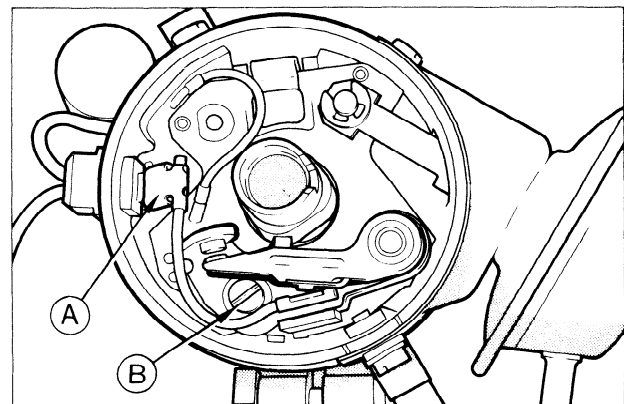

FIG. 11 Breaker Points
2. Disconnect the breaker point primary lead from the condenser terminal (Figure 11).